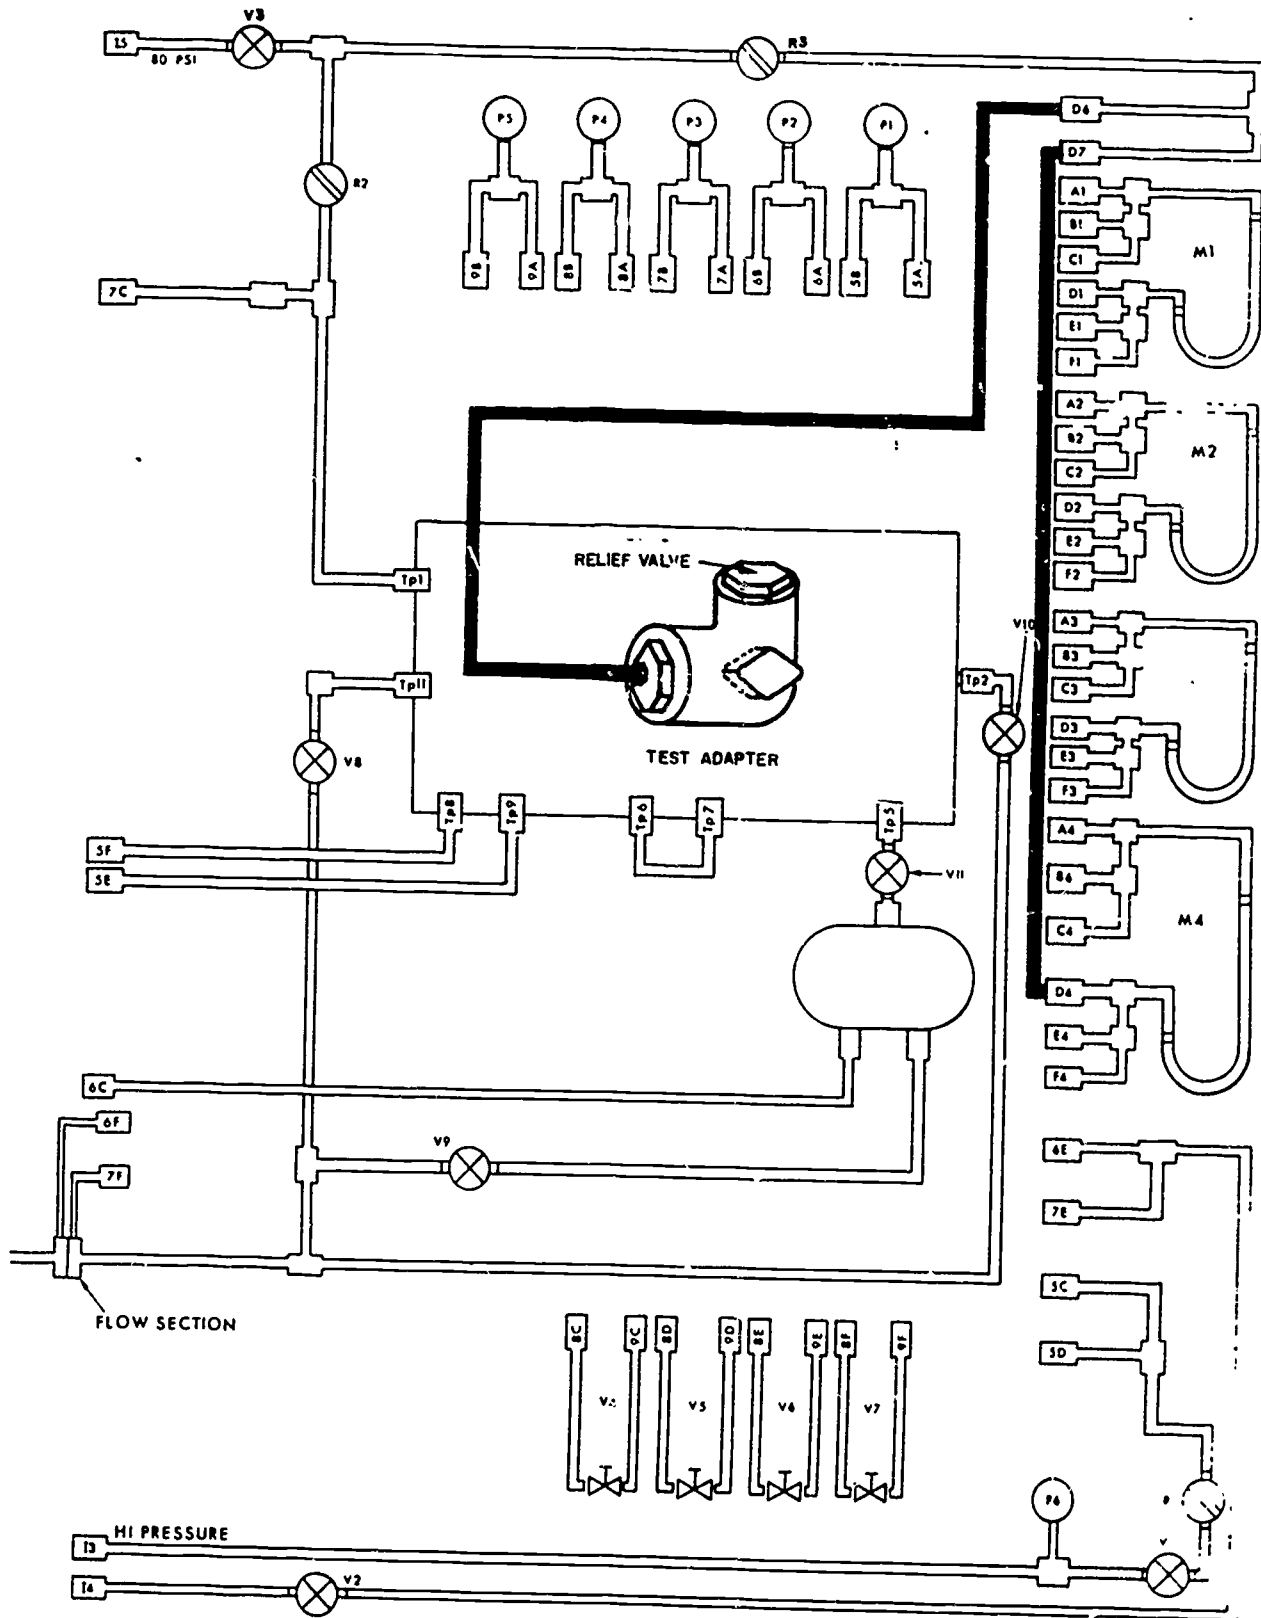

Figure 3. First Stage Relief Valve Test Hook-up
5. Refer to figure 3 of this workbook. Connect the test adapter to the trainer as illustrated. Use the air hoses located on the bottom of the trainer to make the connections.